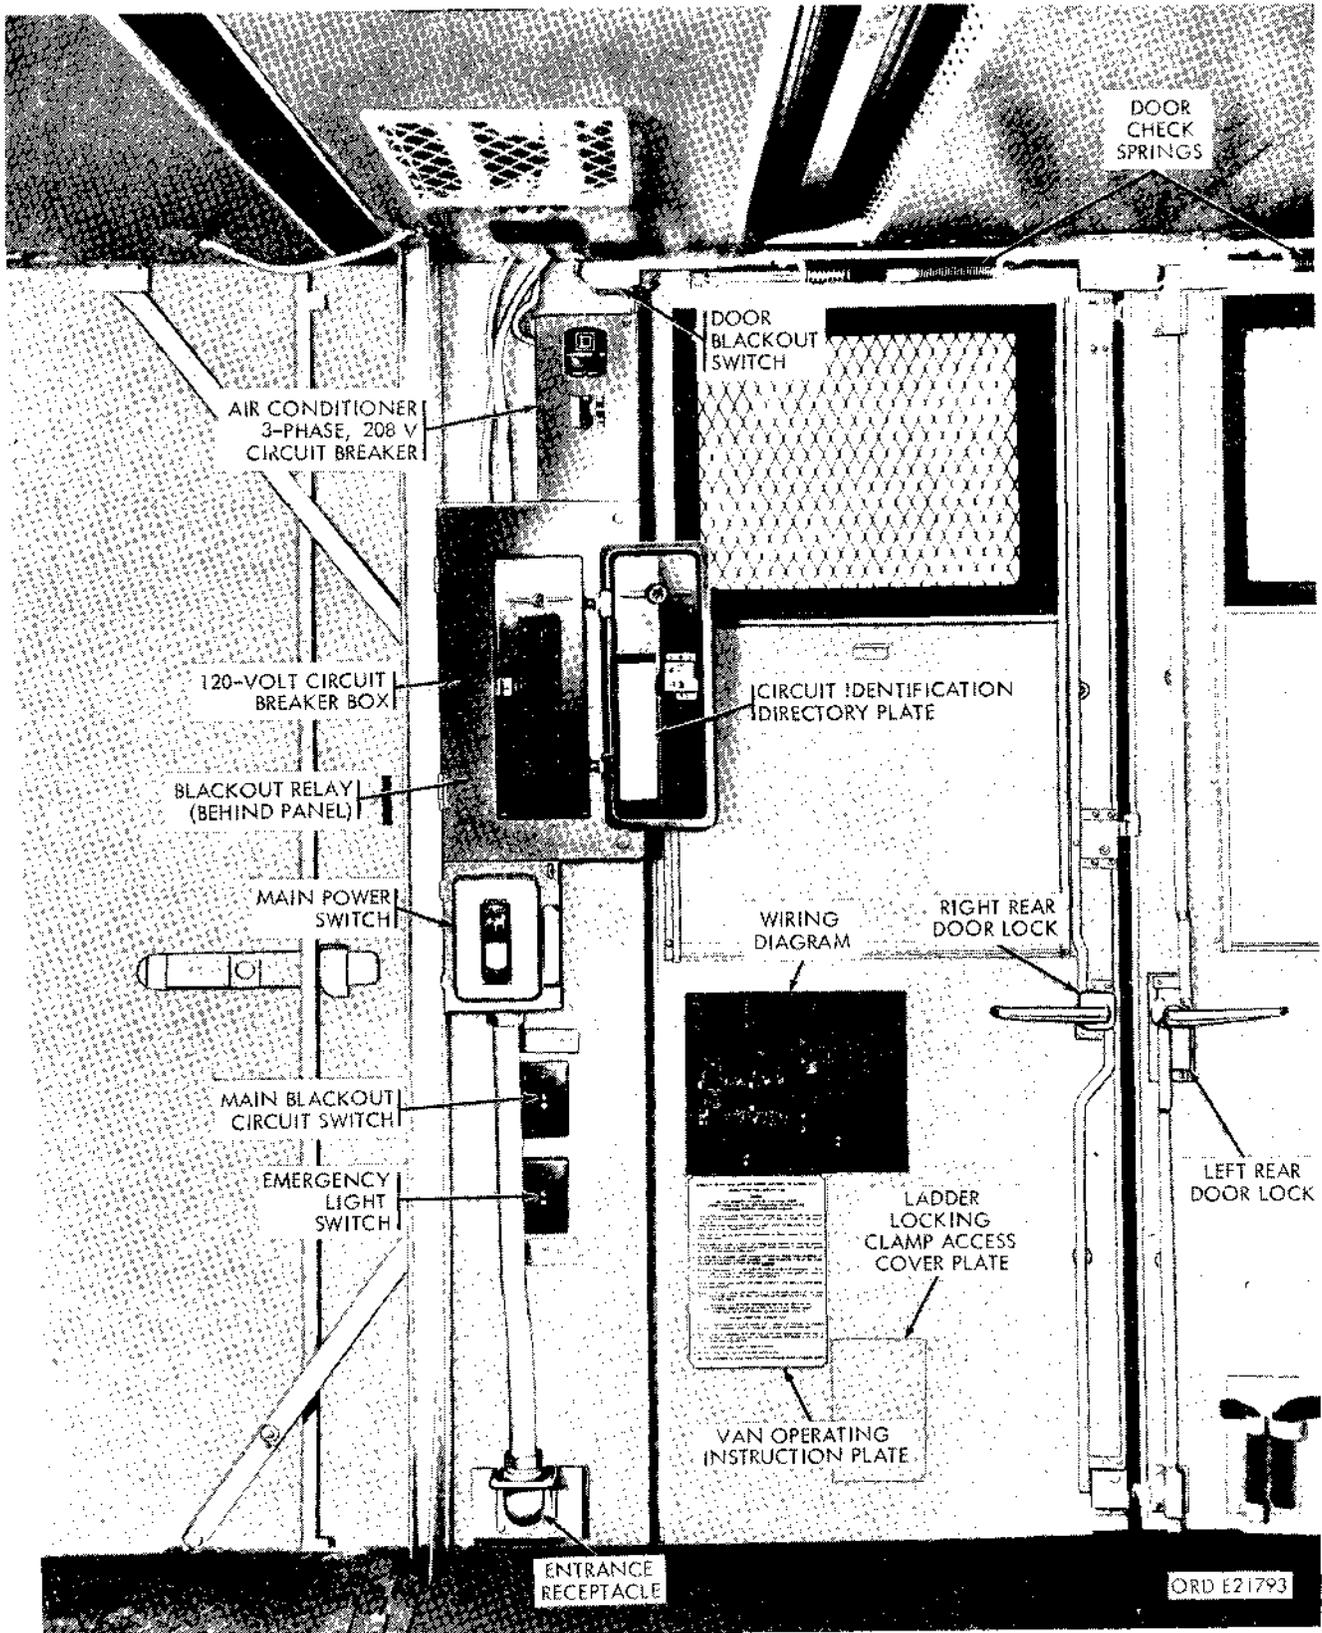

Figure 2-232. Van electrical controls.
(5) *Main power switch.* The main power switch (fig. 2-232) is provided to cut off all external power to the van body electrical system. It contains
(6) *110-volt circuit breaker box.* The 110-volt circuit breaker box (fig. 2-232) provides a distribution and control station for all equipment requiring 110-volt ac power. It contains 12 push type circuit breaker switches, electrically connected in three groups of four each. Each group is connected to one leg of the 3-phase power system, thus providing three individual 110-volt branch circuits. Six of the circuit breaker switches are used in the van body electrical system. The remaining six are available for use with tactical materiel installed in the van body, as required. The circuit breakers function as primary control switches for all 110-volt equipment, and also provide protection for overloaded circuits. The circuit breaker box is covered by a large door which provides access to the interior wiring compartment for maintenance. A smaller door, equipped with a lock and key, permits access to the circuit breaker switches. A circuit identification directory plate is attached to the inner side of the smaller door.
(7) *Blackout relay.* The blackout relay is located inside the circuit breaker box (fig. 2-232). It is a single-pole, double-throw, magnetic type rated at 60 amperes at 110 volts. The relay automatically interrupts the van lighting and receptacle circuits whenever the doors are opened, provided the main blackout circuit switch is in the ON position. However, the individual receptacle blackout switches can override the relay when the operating equipment must be in continuous operation or is not a blackout hazard.
(8) *Main blackout circuit switch.* The main blackout circuit switch (fig. 2-232) controls the blackout circuit. In the ON position, the switch includes the blackout relay in the lighting and receptacle circuits so that these circuits are interrupted by the door-operated switches. In the OFF position, the switch bypasses the blackout relay, eliminating the function of the door-operated switches.
(9) *Door-operated blackout switches.* Three 6-ampere, 110-volt, pushbutton type door-operated blackout switches (fig. 2-232) are located in the van wall near the top of the hinged sides of the two side
(15) *3-phase air condition circuit breaker.* The 3-phase air conditioner circuit breaker (fig. 2-232) is a 3-pole, 20-amp, 250-volt magnetic thermal type used to protect the air conditioner circuit and to shut off power to the air conditioner system during maintenance. It may also be utilized as a emergency switch for the air conditioner when necessary.
(16) 24-volt vehicle clearance and blackout lights are located on the upper front face of the bonnet and on the upper corners of the van rear panel. The clearance lights are placed above the blackout lights and are identical except that the front lights are equipped with amber lenses and the rear lights with red lenses. The clearance and blackout lights are controlled from the vehicle light switch in conjunction with the vehicle lighting system.
a. Removal. Working inside the van (fig. 2-232) remove the six screws attaching the cover plate to the rear door, and remove the cover plate. Working outside the van, remove the four nuts and lockwashers attaching the locking clamp to the rear door, and remove the locking clamp.
(Fig. 2-232 and 2-238).